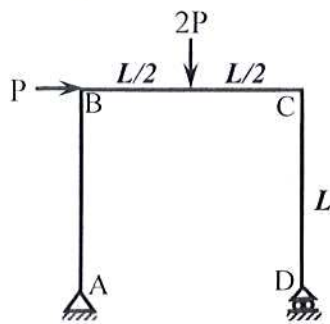

Fig.1
1. Analyze the frame (shown in Fig.1) to determine the horizontal deflection at **D** by the Virtual Work Method [ $P= 68\text{-kip}$ ,  $L= 28\text{ ft}$  for Even Rolls or  $P= 47\text{-kip}$ ,  $L= 37\text{ ft}$  for Odd Rolls and  $EI=\text{Constant}$ ]. [10]